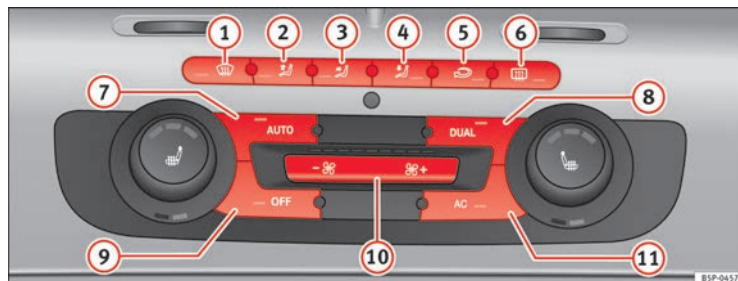

Fig. 130 On the dash panel: 2C Climatronic controls
- Turn the temperature control knobs ⇒ fig. 130 to adjust the temperature on the left hand side or the right hand side respectively.
- Press  ⇒ **fig. 130**. “AUTO High” is shown on the radio display (high fan speed).
- Press  again ⇒ **fig. 130**. “AUTO Low” is shown on the radio display (low fan speed).